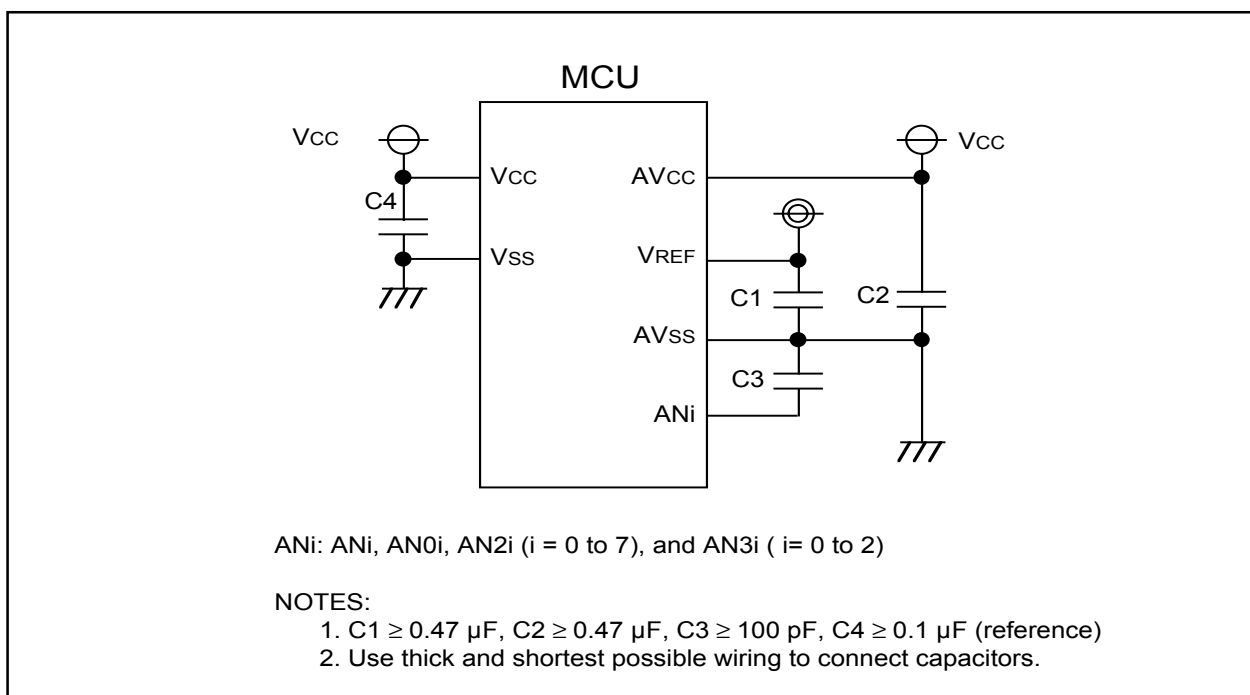

Figure 21.5 Use of capacitors to reduce noise
3. To prevent noise-induced device malfunction or latchup, as well as to reduce conversion errors, insert capacitors between the AVCC, VREF, and analog input pins (AN_i, AN0_i, AN2_i(i=0 to 7), and AN3_i(i=0 to 2)) each and the AVSS pin. Similarly, insert a capacitor between the VCC1 pin and the VSS pin. **Figure 21.5** is an example connection of each pin.